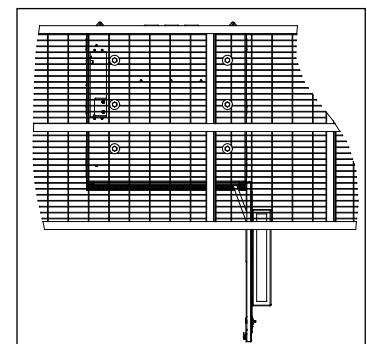

Figure 8
9. To secure the CUBE to a steel grate platform, install 1/2” corrosion-resistant Grade 5 steel hardware through the cabinet and platform grate. Ensure that the bolts are long enough to extend past the nut on the bottom side of the platform grate. For all mounting applications, for each bolted joint, use a minimum Ø1 inch fender washer on the inside of the cabinet (and underside of the platform grate for platform mounting) with a lock washer. The washer on the underside of the platform must be large enough to cover both adjacent bearing bars as shown in Figure 8.